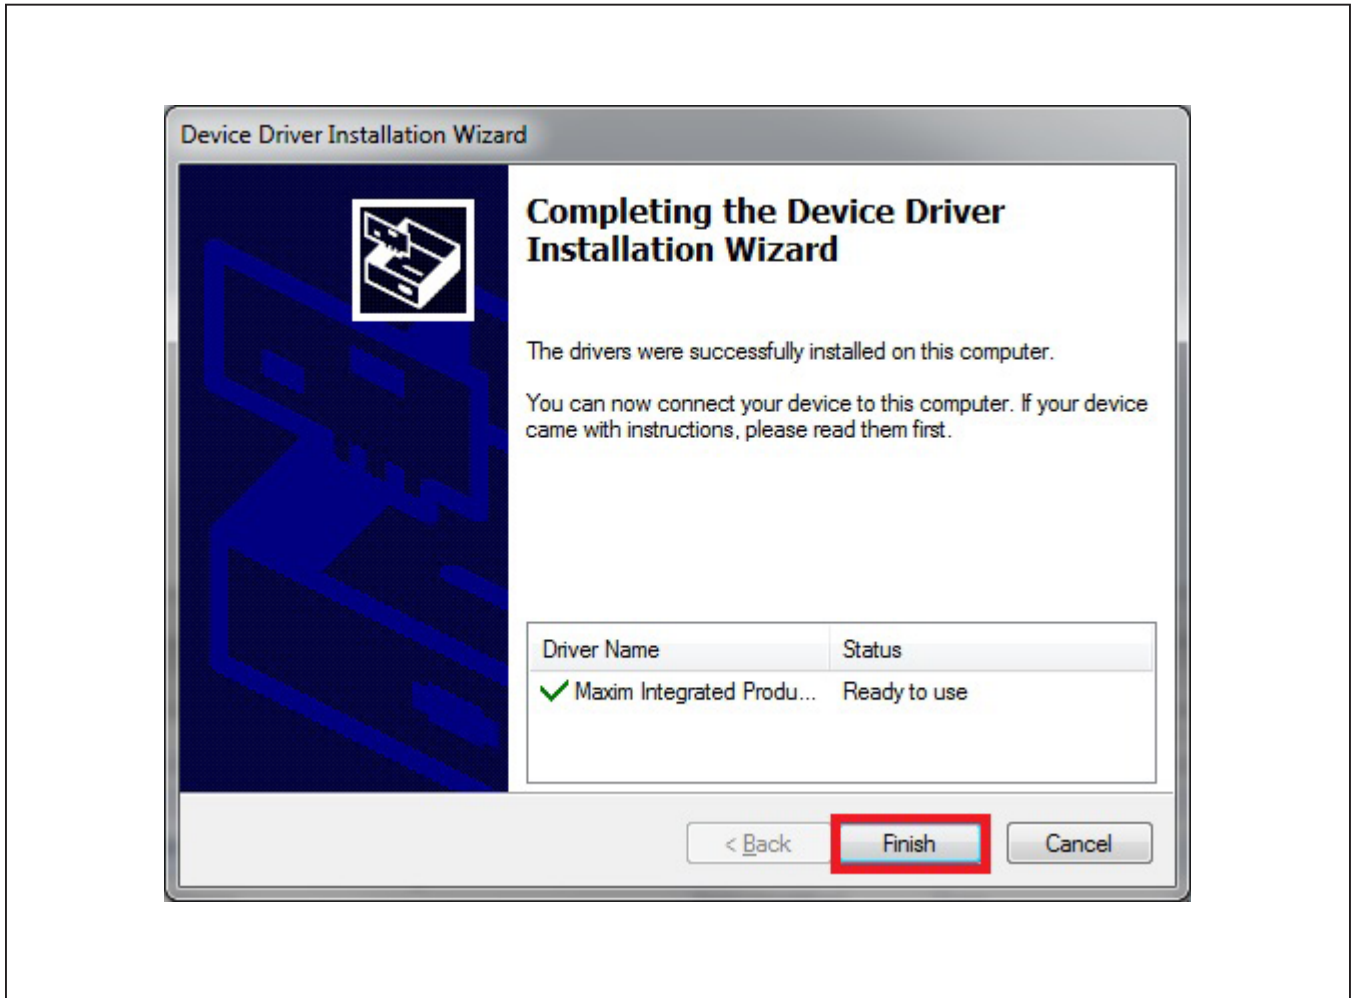

Figure 8. Device Driver Installation Finished
9) Click on **Finish** to close the final window and confirm the driver is installed correctly (Figure 8).